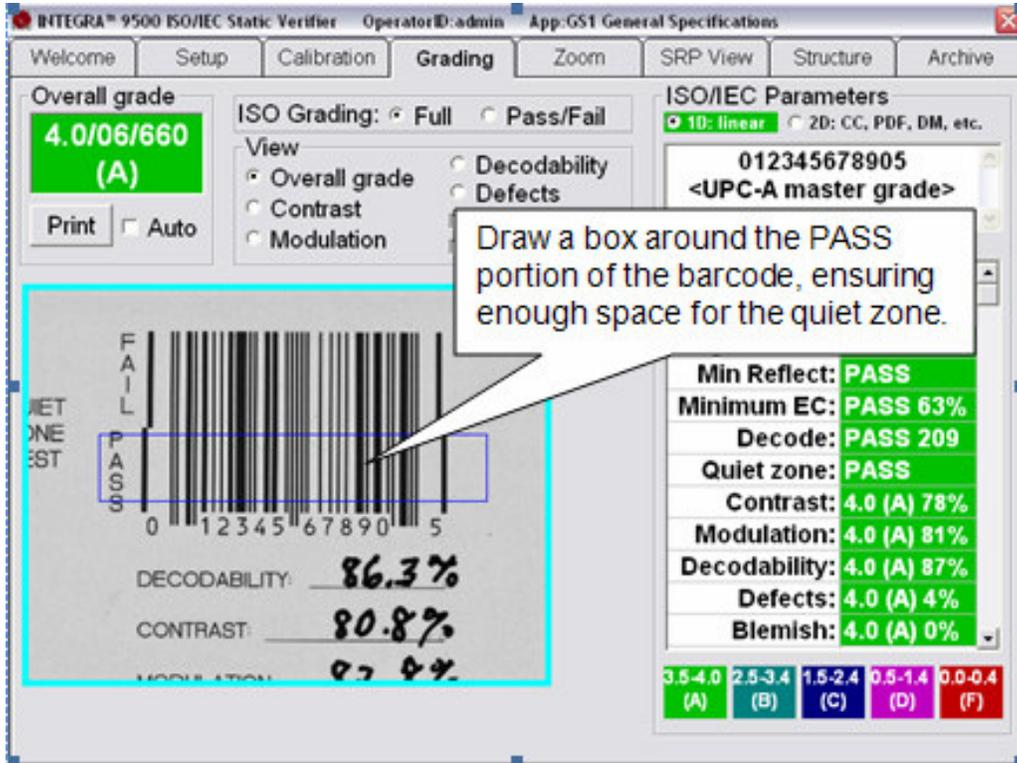

Figure 7: Grading Tab
- Draw a box around the “Pass” area by clicking the mouse on the top left corner and holding it down. Then, release it to where the box is complete (see Figure 7).